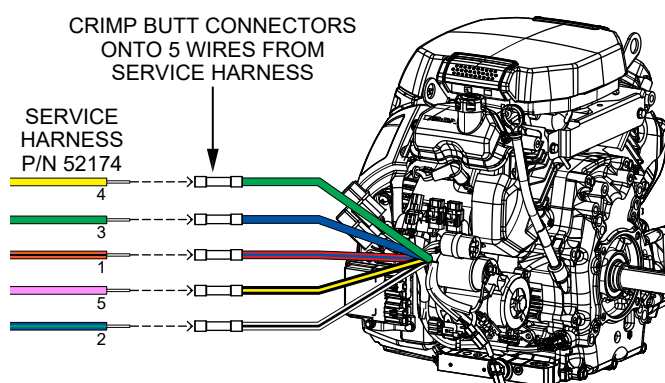

**Figure 7. Crimp Butt Connectors
4. Crimp one appropriately sized **butt connector** (P/N 17267 or P/N 48668) onto the end of each of the five engine wires. See Figure 7.